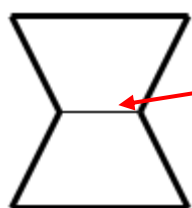

Figure 5 – Factory Default
- 3.3.** When aligning the printhead ensure **both** sides of the printhead start from the factory default position with the alignment witness mark in the centre of the inspection window as shown in Figure 5.